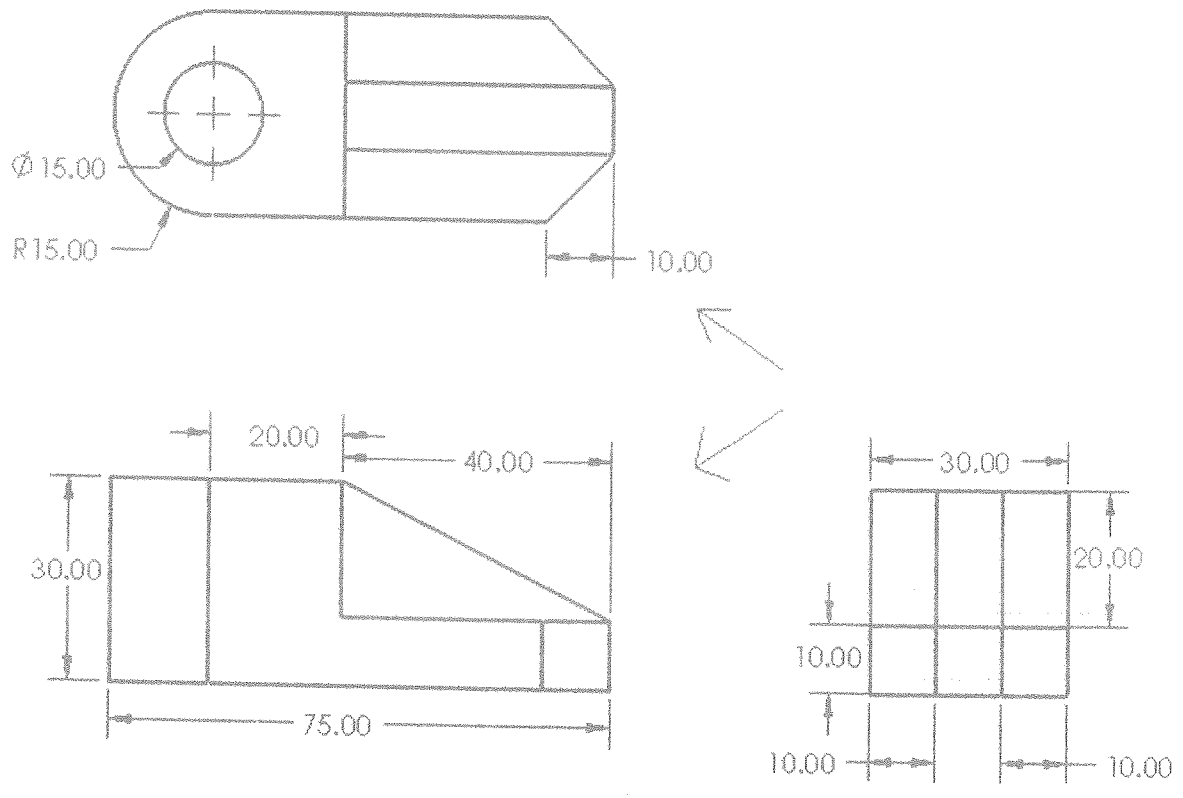

Figure Q2
- Q2. Orthographic projections of an object drawn in the third angle projection are given in Figure Q2. Use the isometric scale and draw the isometric view of the object looking in the direction shown by the arrows. (Note: assume any dimensions not given) [10.0 Marks]